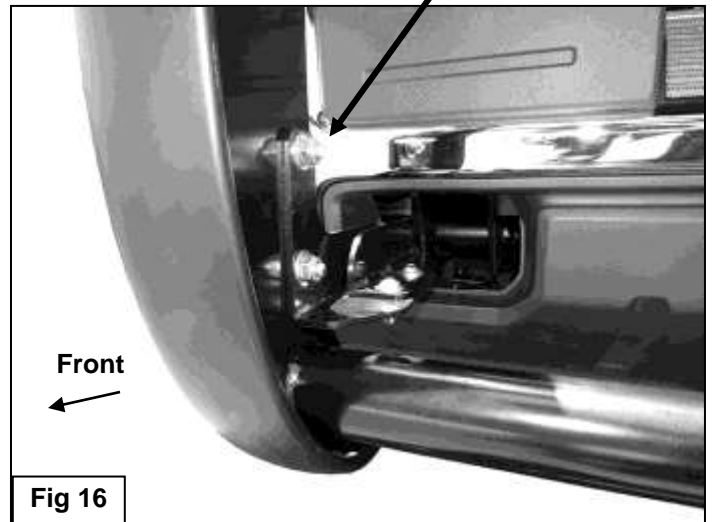

Fig 16
10. With assistance, hold the Grille Guard up in position on the outside of the Mounting Brackets. Bolt the Grille Guard to the Brackets with (4) 10mm x 30mm Button Head Bolts, (8) 10mm Flat Washers and (4) 10mm Nylon Lock Nuts, **(Figure 16)**. Do not tighten hardware at this time.